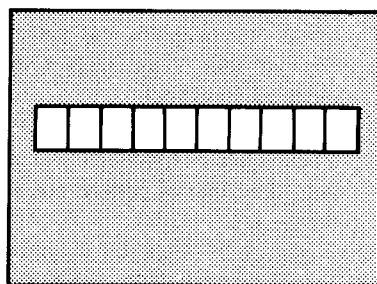

Fig. 7-47.
- 2) Check to assure the display either on a monitor TV or the EVF screen of the characters such as shown in Fig. 7-47.
- 3) Supply Pin ① of W606 (LBV) on FC-10 board with the 3.00Vdc voltage from a regulated-DC power supply.